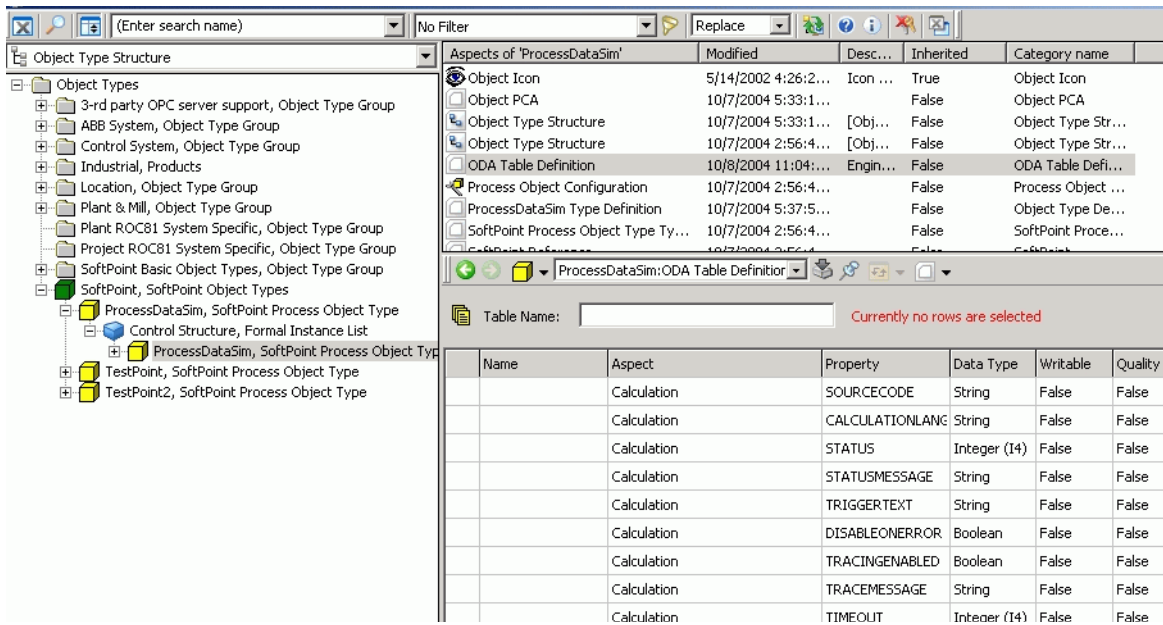

Figure 369. Table Definition Aspect
- 4. To show the configuration view for this aspect, select the object type and then click on the aspect, Figure 369.